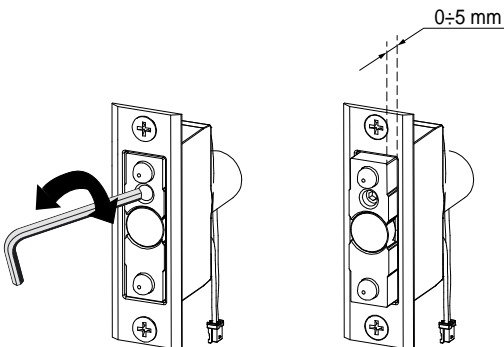

Fig. 2
3. By turning the adjusting screws, adapt the position of the Door Status device to the clearance between the door leaf and the frame (Fig. 2)